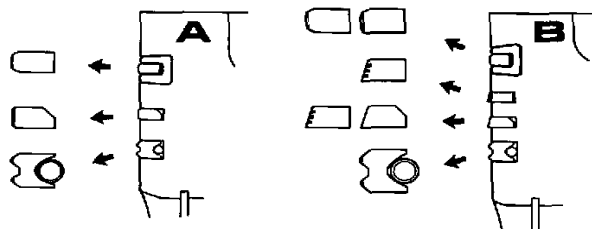

Fig. 61. Positioning the piston rings
**70 series:** The second and third compression rings are tapered and are to be fitted as shown in fig. 61, with the TOP or (→) marking facing upwards. The rings are surface-treated with ferrox. The second compression ring has also three ferrox-filled grooves and the third (in the piston ring kit) has an internal chamfer. The upper compressing ring (chrome-plated) is to be fitted with the TOP-marking (→) facing upwards.